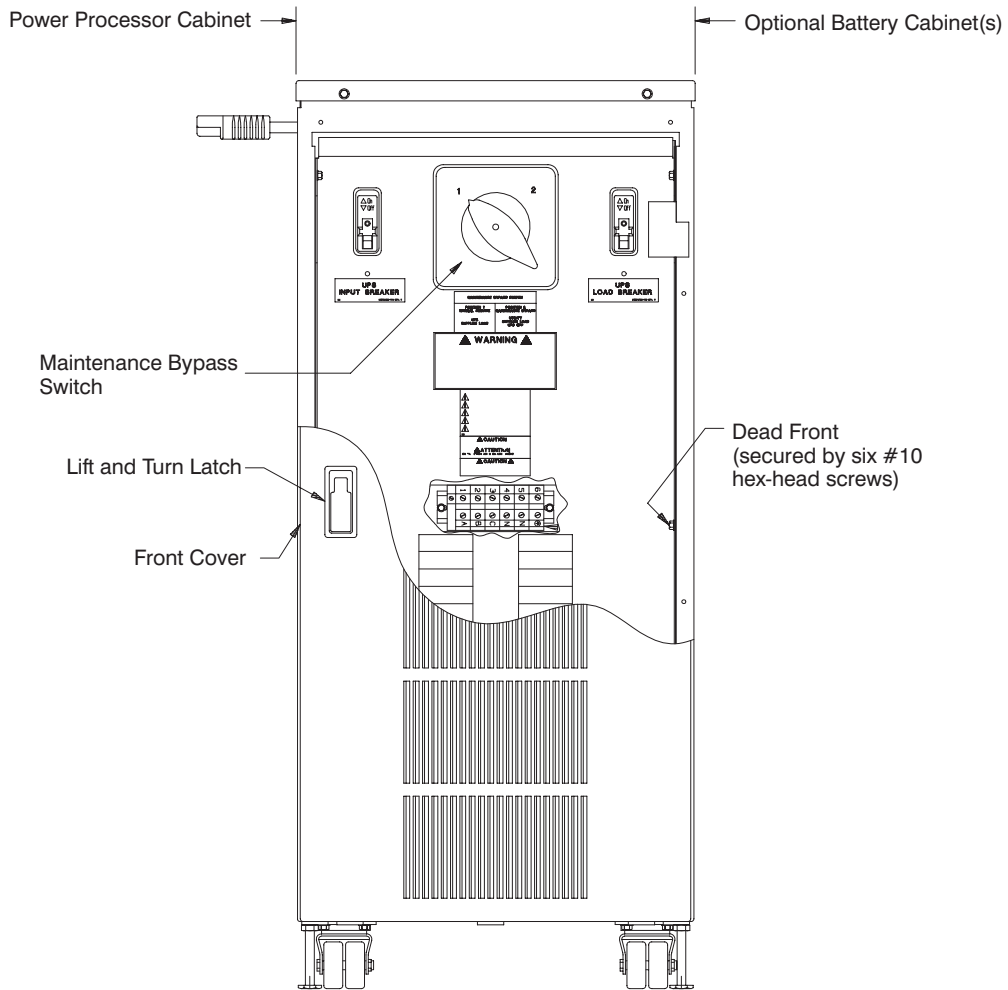

Figure 15. Options Cabinet (Front View)
10. Lift and turn the latch located on the front cover of options cabinet (see Figure 15).